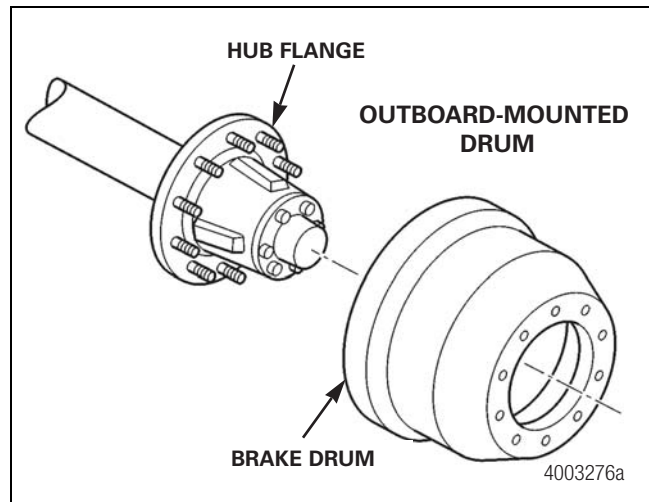

Figure 9.14
- **On outboard-mounted drums:** With this configuration, the brake drum is mounted outboard of the hub flange. Therefore, the hub can remain in place when removing the brake drum. The main advantage of this design is that wheel-end bearings, seals and lubricant can remain in place during brake maintenance. Figure 9.14.